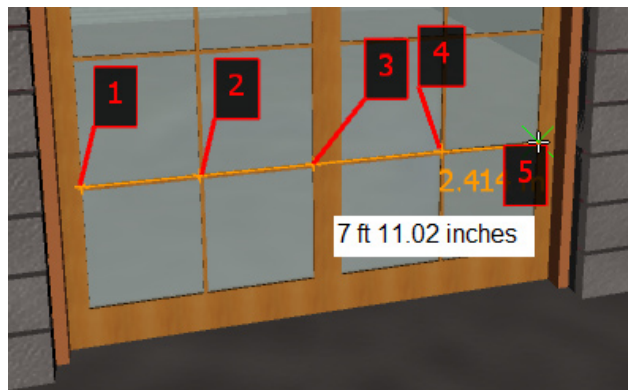

Figure 3-44 The total distance calculated between point 1 and 5
4. Repeat the procedure followed in steps 1 to 3 to calculate the total distance between 1 and 5; the calculated distance is displayed in the Scene View, as shown in Figure 3-44.